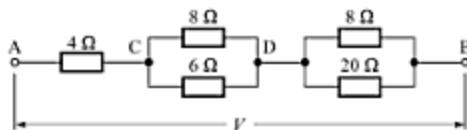

Fig. 2.41
15. The current in the 6-ohm resistor of the network shown in Fig. 2.41 is 2 A. Find the currents in all other resistors and the voltage across the network.